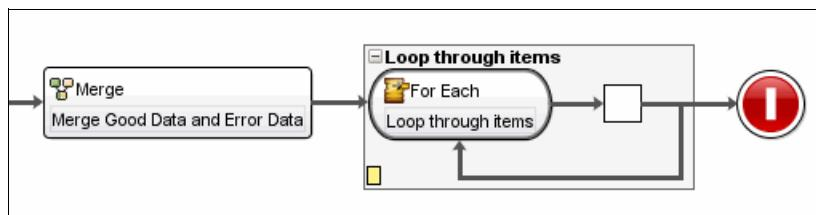

Figure 12-64 For Each activity
1. Select the Activities tab, and drag **Logic → For Each** to the right side of the Merge activity. Make sure that you rename it to Loop through items, as shown in Figure 12-64: